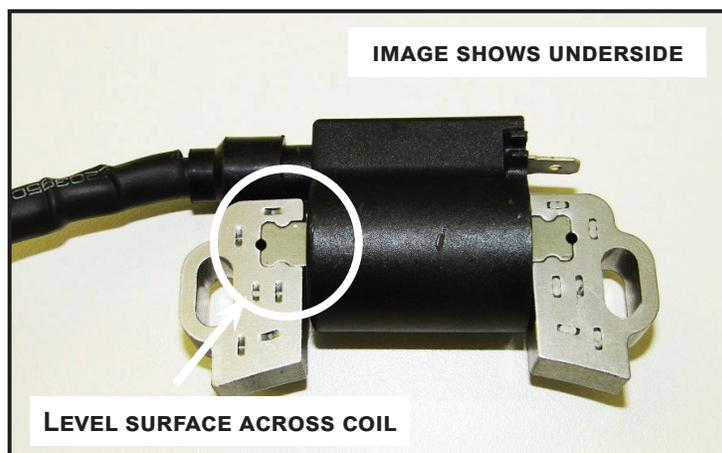

Figure 2
2. Identify a good Ignition Coil. A good coil will not have a step from the laminate core. See Figure 2.